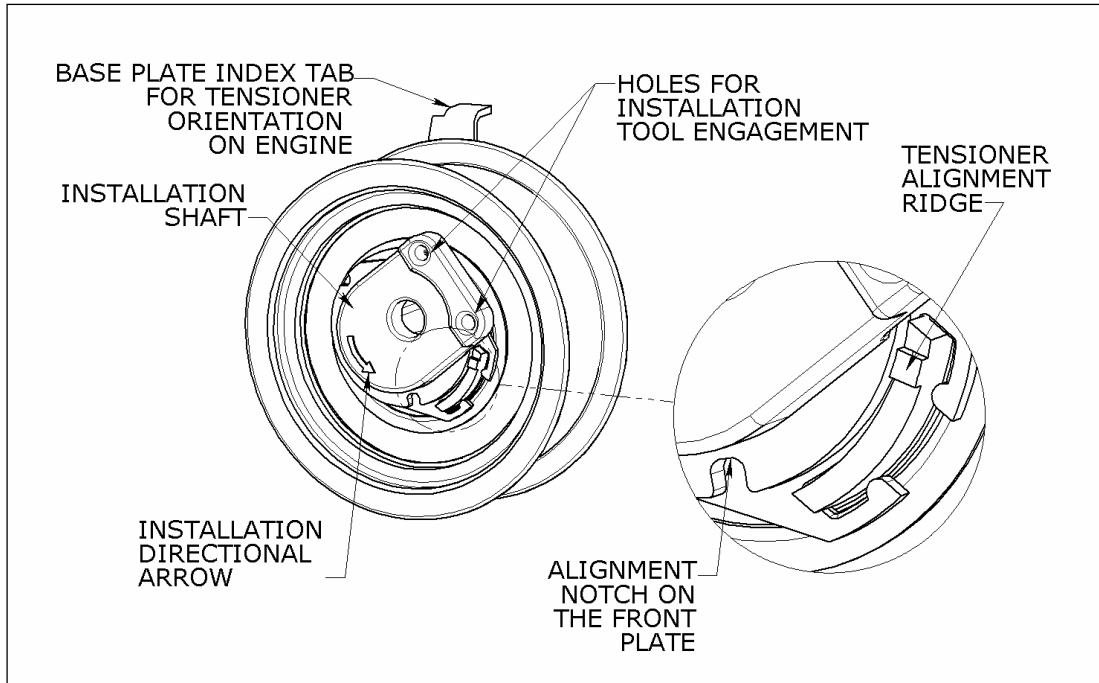

Figure 2: Timing Belt Tensioner shown as shipped
5. Install the new tensioner (Fig. 2) on the engine mounting stud ensuring that the anti-rotation Index Tab of the base plate is engaged in the slot in the engine cylinder head.